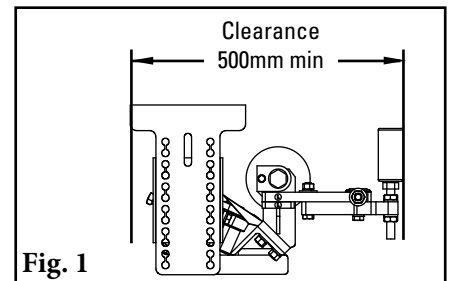
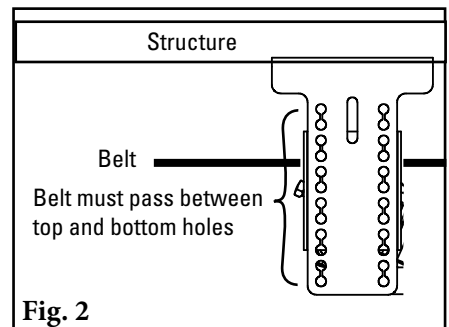

Fig. 1
Fig. 2
- Come-alongs (2) (680 Kg min.)
- Identify an opening of at least 500mm if possible to avoid interference with sensor rollers during installation (Fig. 1).
- May be mounted to existing idler bracket mounts OR to outside of structure, if structure width is belt width +450mm or less. Be sure belt passes between top and bottom mounting holes (Fig 2).
- If belt is still mistracking too far to one side, bring that sensor roller in toward the centre. Make adjustments of 6mm at a time (Fig. 1). Do not pinch the belt between the rollers; rollers overall should be 38mm wider than the belt (Fig. 2).
2. **Remove roller** by unbolting Roller Retainers (Fig. 2).
1. Loosen "A" and "B" bolts, turn "C" bolts to move sensor rollers away from the belt (Fig. 1).
2. Loosen nut at base of sensor roller and remove from adjuster arm (Fig. 2).